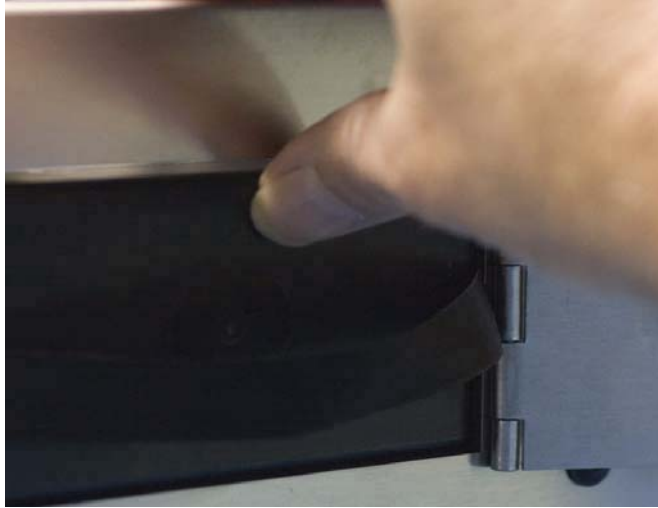

Figure 3-4 Battery Engaging Connector
3. Push the battery all the way into the compartment until it snaps into place. See Figure 3-4. Close the door and tighten the screw lock by turning it clockwise.